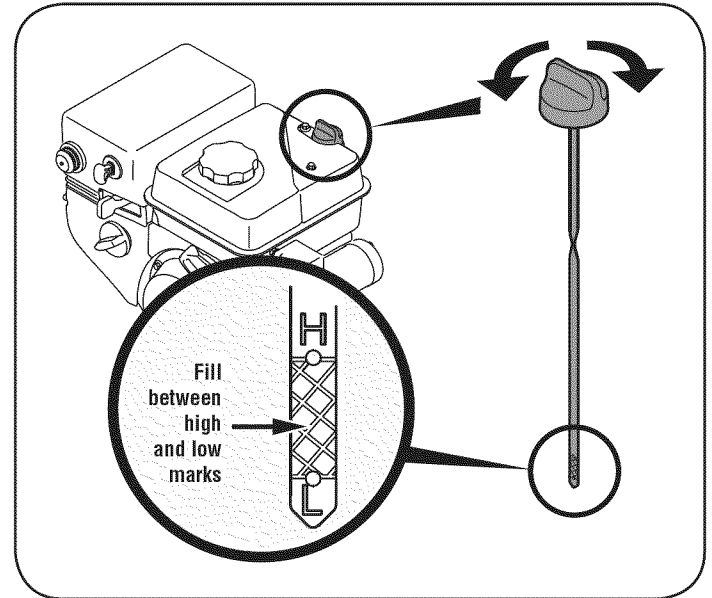

Figure 12
3. Remove the oil filler cap/dipstick. If level is low, slowly add oil until oil level registers between high (H) and low (L). See Figure 12.